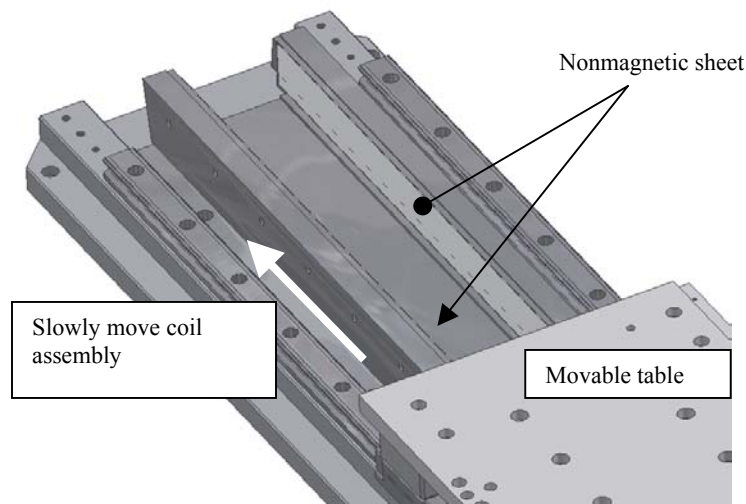

Figure 16
- (2) Insert a thin nonmagnetic (preferably resin) sheet (approximately 0.5-mm thick) in the air gap between the coil assembly and magnet track, and then move the coil assembly slowly toward the magnet track. (Refer to Figure 16).